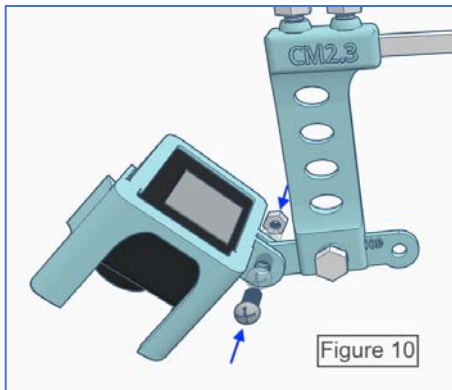

Figure 10: Attach the Camera Mount
Part 4 – Attach the Camera Mount to the Payload Mount (Figures 10 – 11)
1. Slide the camera mount tabs onto the forward-facing bracket on the payload mount. Insert the mounting bolt through the hole and thread the retaining nut onto it. (Figure 10)